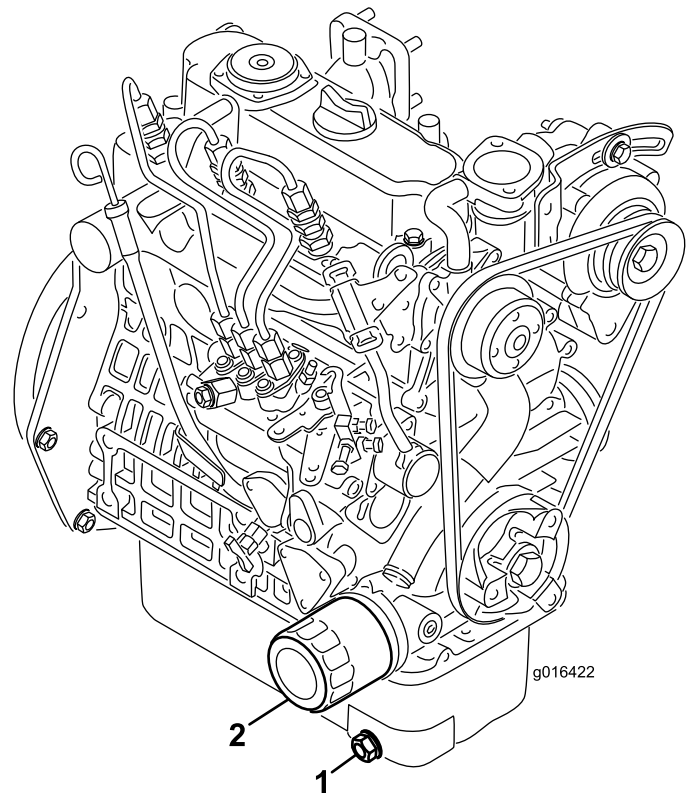

Figure 38
1. Remove the drain plug (Figure 38) and let the oil flow into a drain pan. When the oil stops, install the drain plug.